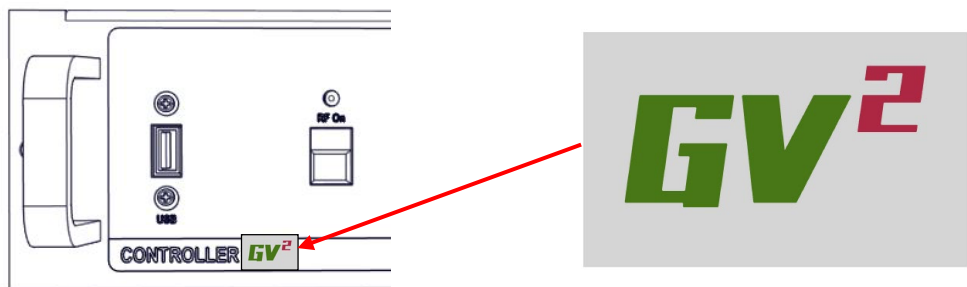

Figure 4: GV2 Label Location on Controller Module
- (a) Obtain the GV2 controller branding label (Nautel Part # HAY402A) from the Field Modification kit and install it on the front of the controller module as shown in Figure 4.